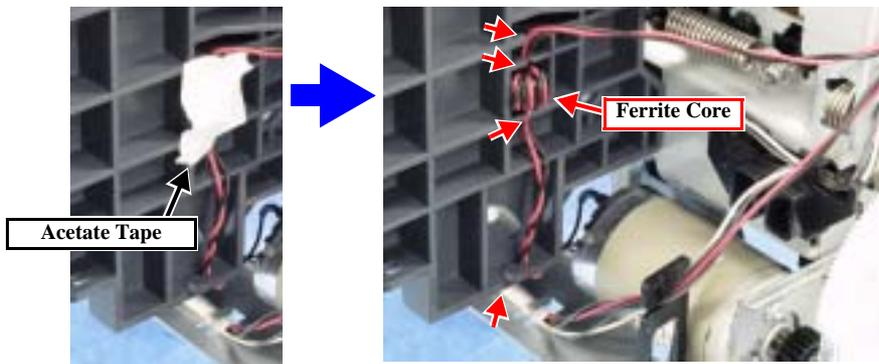

Figure 4-57. Lead Wires on the ASF Assy
4. Release the lead wires of the PF Motor. (Fig. 4-57)
3. At the left side of the ASF Assy, peel off tape, and disconnect the lead wires of the PF Motor from the ASF Assy. (Fig. 4-57)